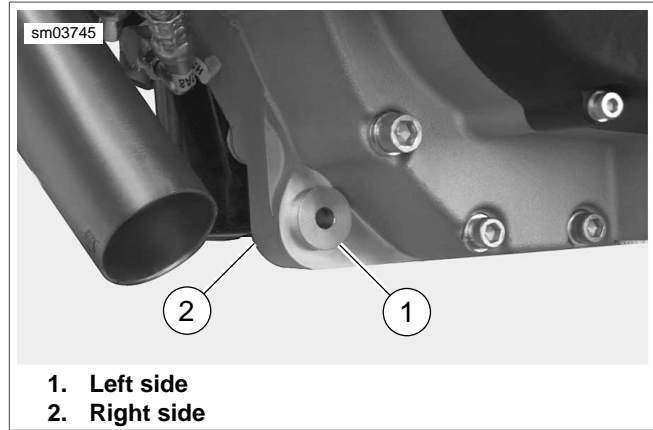

Figure 3-19. Front Exhaust Mount Bushings (2 piece)
- d. See Figure 3-19. Aluminum bushings from front exhaust mount.